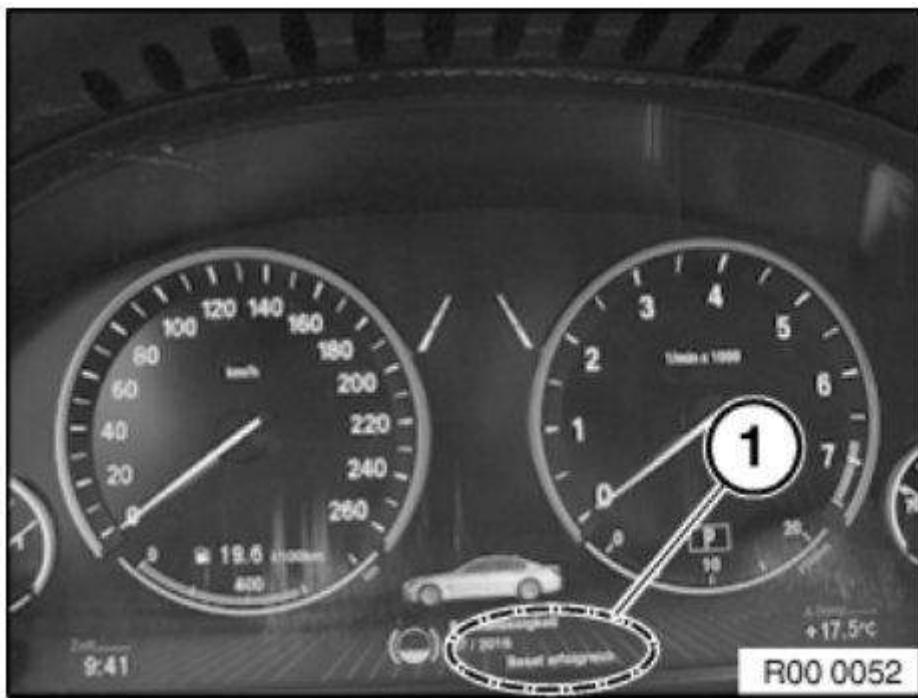

Fig. 14: Identifying Condition Based Service (CBS) Instrument Panel Controls & Display (5 of 5)
9. The reset is confirmed after completion as "Reset successful". See Fig. 14.